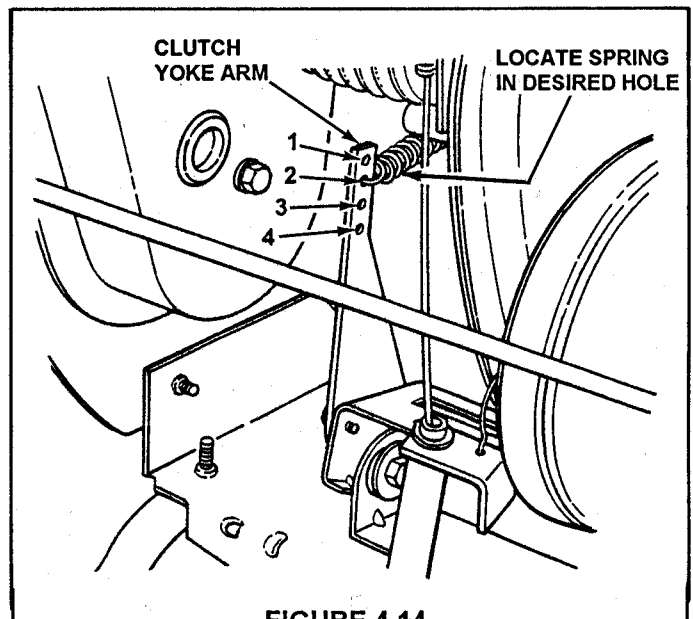

FIGURE 4.14
6. Move spring to first hole (for positive clutch action) to 4th hole (to increase clutch slipage). See Figure 4.14.